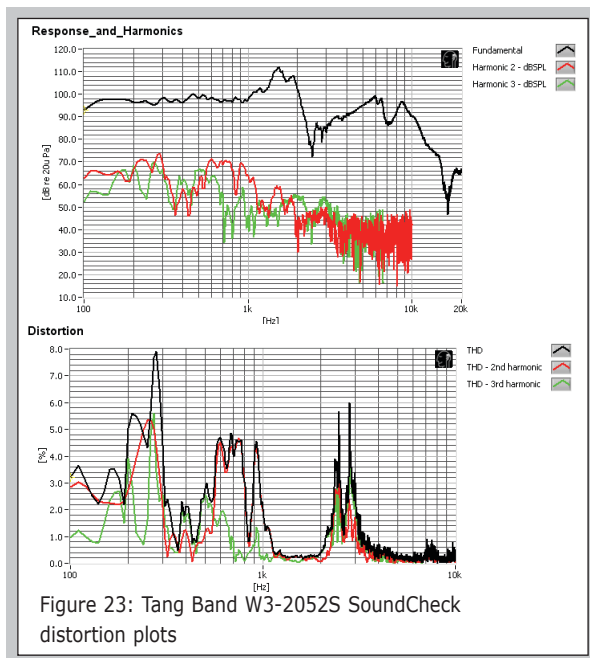

Figure 23: Tang Band W3-2052S SoundCheck distortion plots
**Figure 23** shows the distortion plot. The top graph shows the standard fundamental SPL curve with the second- and third-harmonic curves. The bottom graph shows the second- and third-harmonic curves plus the THD curve with an appropriate X-axis scale.